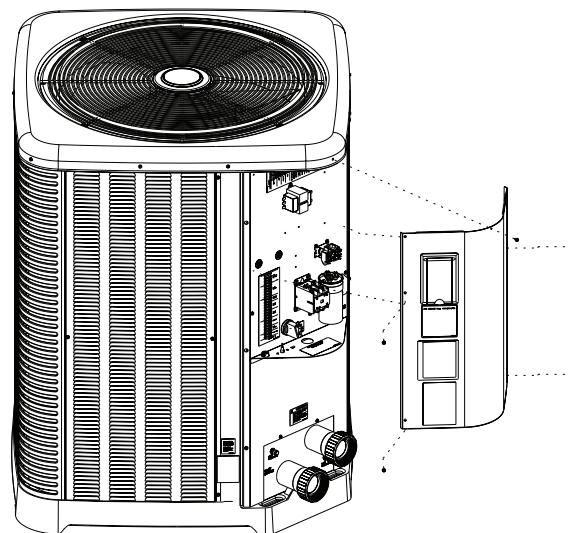

Fig. 10: Sheet Metal Screws to Remove Control Panel
2. Remove the 5 screws securing the control panel cover from the cabinet (2 each side and 1 in the top panel – see Fig. 10 below). Place the screws in the recessed cups in the molded base.